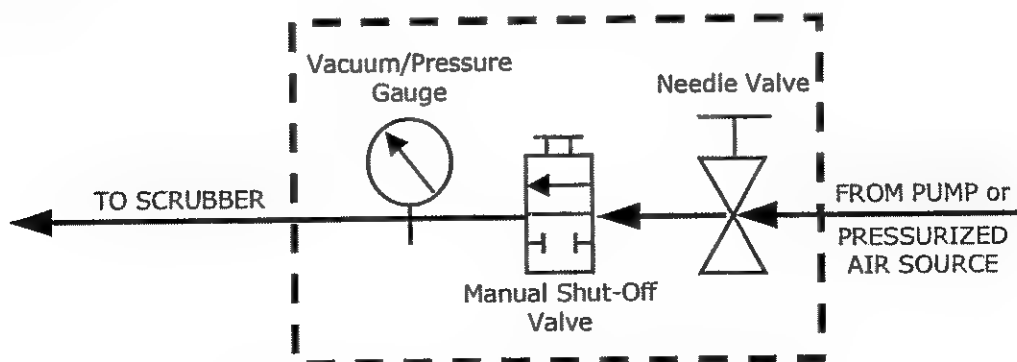

Figure 11-4: Simple Leak Check Fixture
- This procedure requires a pressurized source of air (chemical composition is unimportant) capable of supplying up to 15 psia and a leak checking fixture such as the one illustrated in Figure 11-4.